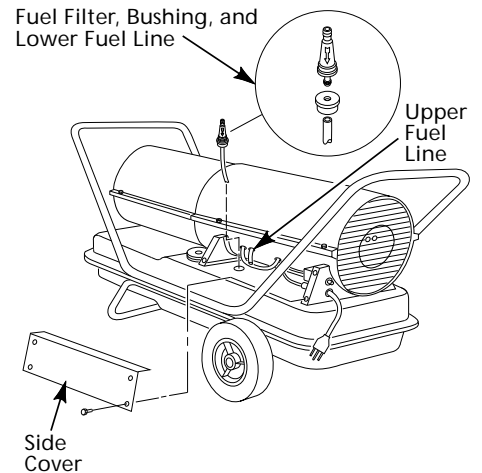

Figure 15 - Fuel Filter Removal, Models 3E218E and 3E219D
4. Carefully pry bushing, fuel filter, and lower fuel line (Models 3E218E and 3E219D only) out of fuel tank (See Figure 15).